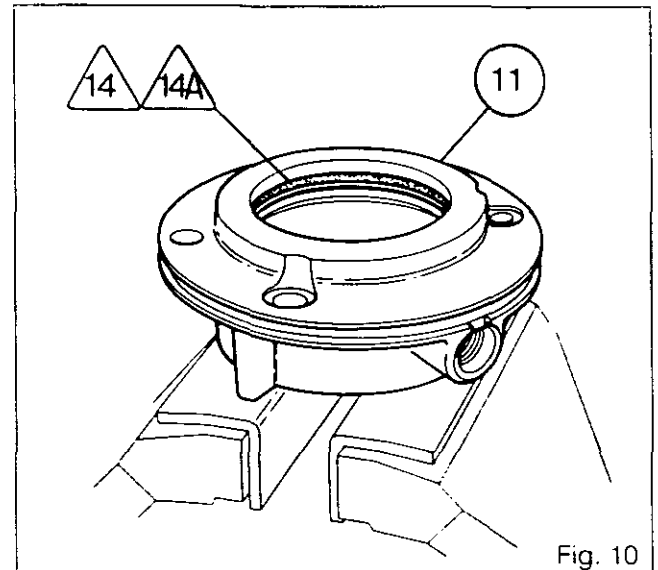

Fig. 10
- on the slave cylinder (11): the seal /14\ and the "O" ring /14A\ (Fig.10).